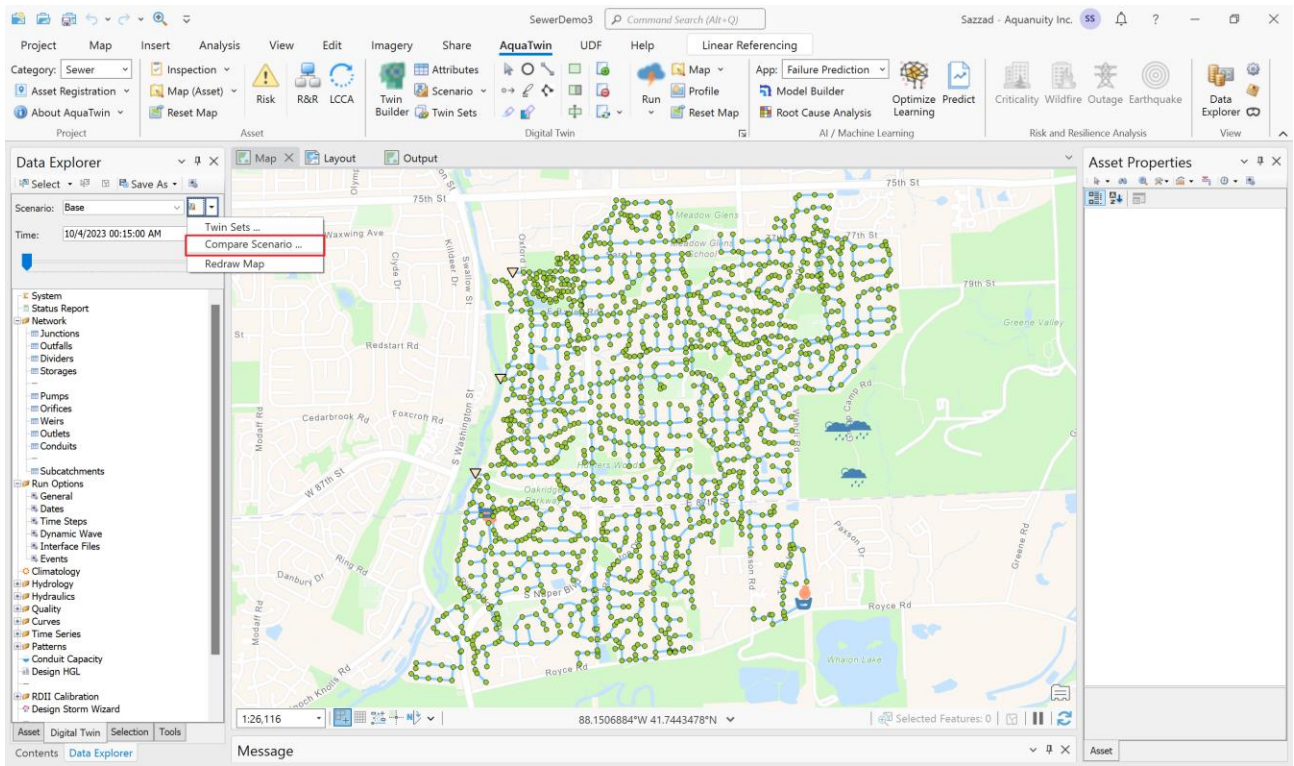

Figure 8: Compare Scenario button.
1. Different scenarios can be compared from the *Compare Scenario* button, which can be accessed either from the *Scenario* dropdown menu in the AquaTwin ribbon or through *Digital Twin* as shown in **Figure 8**.